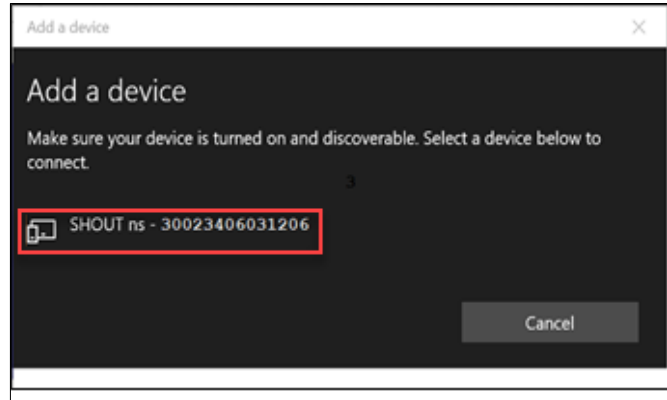

Figure 8: Select Device
8. Select **SHOUT ns** device (see **Figure 8**).